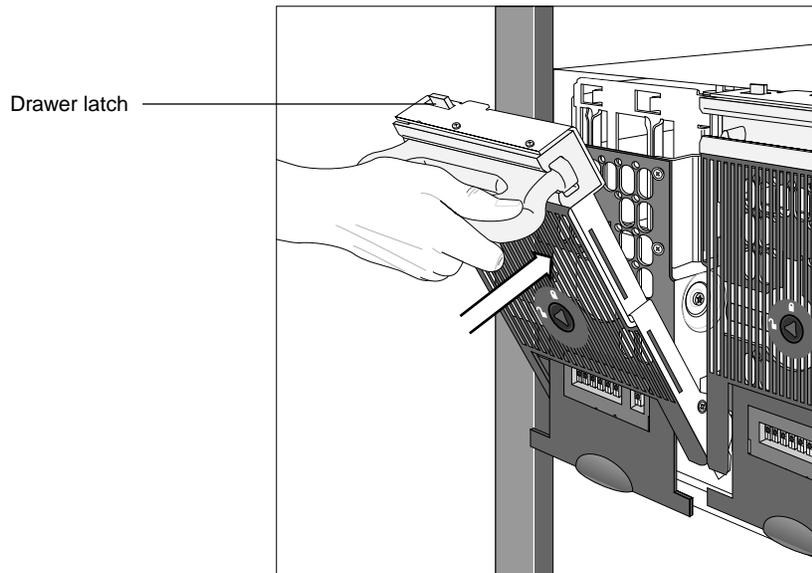

Figure 40. Latching the HDDA drive drawer
6. Seat the drive drawer firmly into the drawer slot by pressing the handle closed (Figure 40). The cam action of closing the handle seats the drive drawer properly.